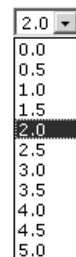

Figure 6-17 — RGB delay drop box
4. Click the RGB delay drop box. A drop-down scroll box appears (figure 6-17).